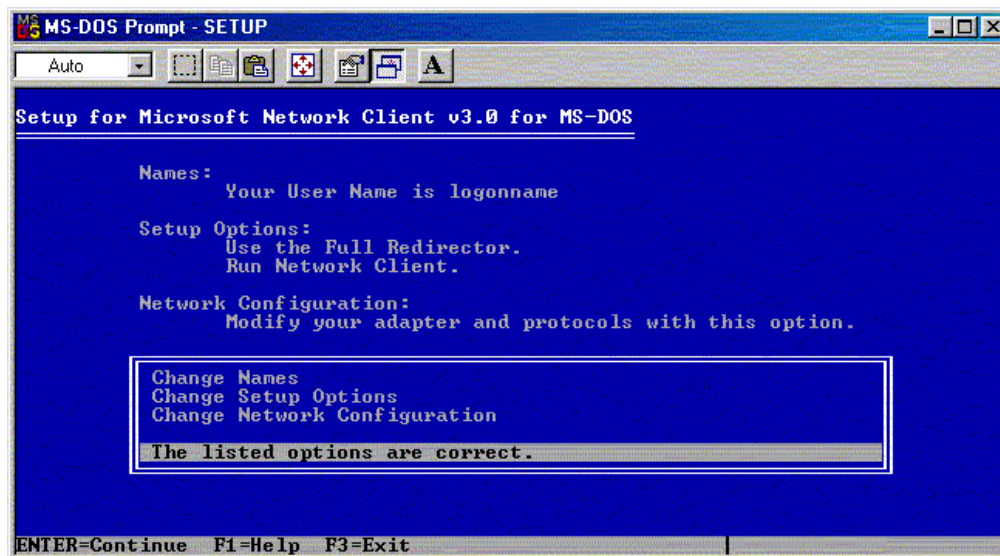

Figure A-10: Default Network Client 3.0 settings
8. Enter the network logon user name. A screen similar to Figure A-10 displays the default Network Client 3.0 settings.
14. Press the **Enter** key again at the Network Client 3.0 settings screen (Figure A-10), and a prompt for the OEM Driver Disk is displayed, similar to Figure A-14.